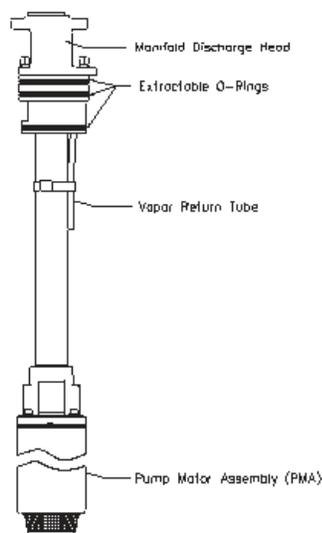

Figure 2
4. To remedy abnormal vacuum conditions, remove the 3/8" plug from the manifold discharge head (see Figure 3) and unscrew the brass Syphon Jet using a large standard screwdriver. Pull the Syphon Jet out and clean it, making sure that the Syphon Jet only allows for downward flow when installed. Before reinstalling the Syphon Jet, ensure that the Syphon Port and the Vapor Return Tube have open passages by using a stiff wire or other similar device to check. Replace or reinstall the Syphon Jet and 3/8" plug. Check for normal vacuum. If the passages are clear and the vacuum is still abnormal, check the STP Extractable O-rings for damage and make sure that the Vapor Return Tube is not pinched. To check the Vapor Return Tube, remove the STP Extractable and repair as necessary (see Figure 2). If the condition has been corrected, continue with the next step to test the remaining syphon system. If abnormal vacuum conditions continue, contact FFS Petro Technical Support.